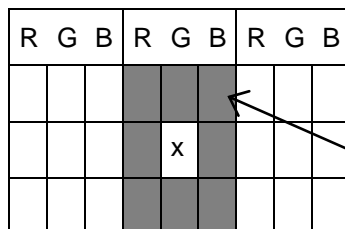

Fig 11.5
- The definition of adjacent dot is shown as Fig. 11.5.